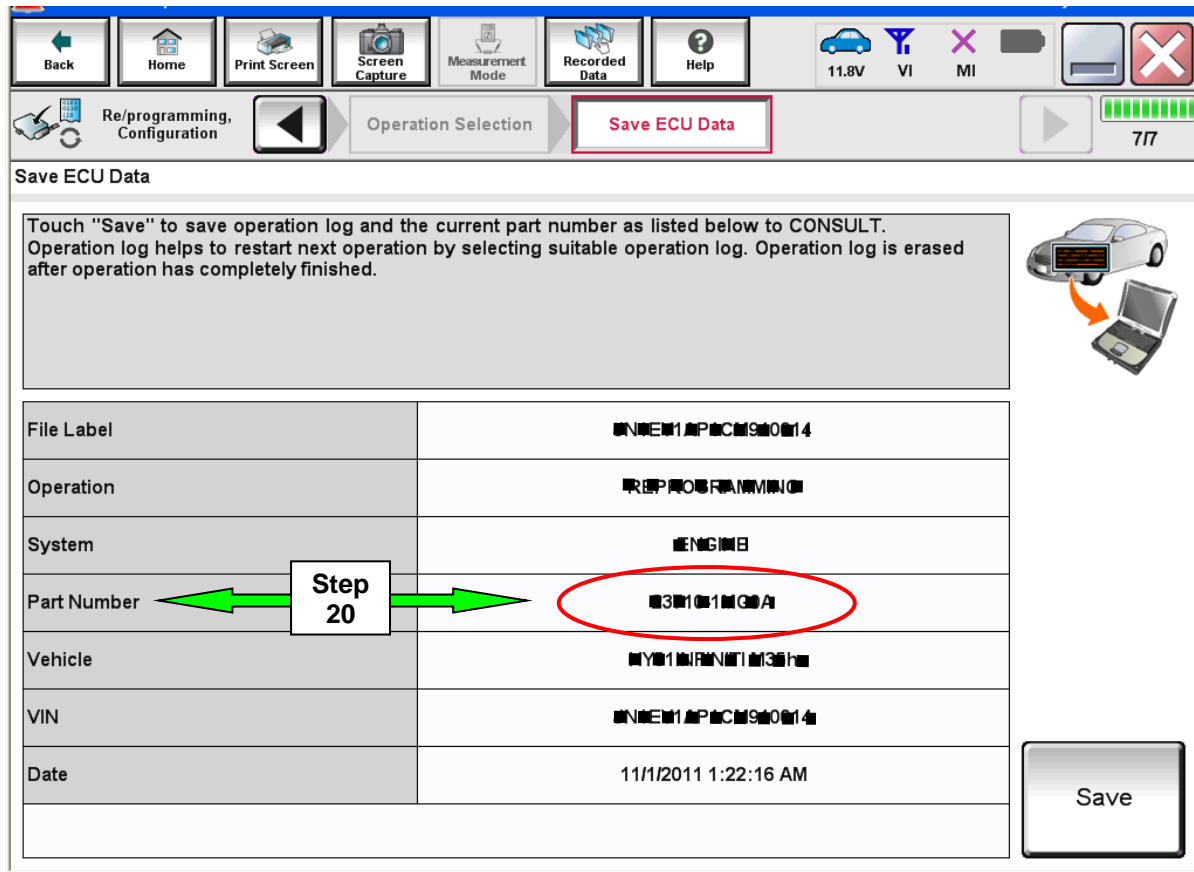

Figure 9
20. Find the ECM **Part Number** (see Figure 9) and write it on the repair order.